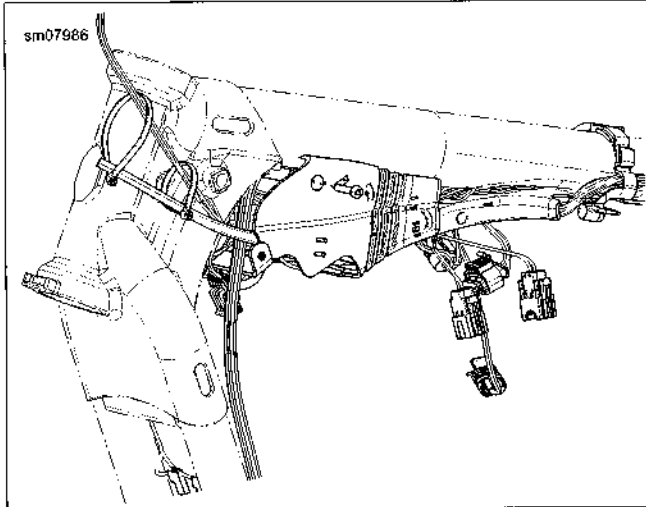

Figure 6-98. Electrical Caddy Cable Straps
12. See Figure 6-98. Fit caddy halves together. Fasten with single screw. Tighten to 15-25 **in-lbs** (1.7-2.8 Nm).